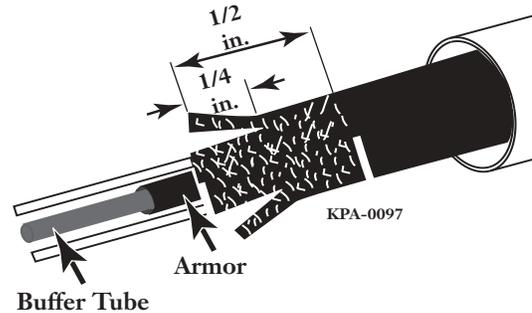

Figure 5
**Step 10** Cut two flaps in the cable sheath at the end. These flaps should be approximately  $\frac{1}{4}$ -inch wide on opposite sides of the cable. Trim a small amount of the sheath from the end of each flap. Bend the flaps out so epoxy flows around them when the plug is poured (Figure 5).